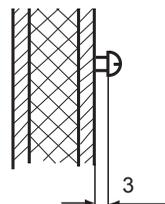

Fig. 3
2. Insert one of the screws into the upper middle hole. This screw will be the mounting point for the control unit. Make sure the screw is projecting out about 3 mm (fig. 3).